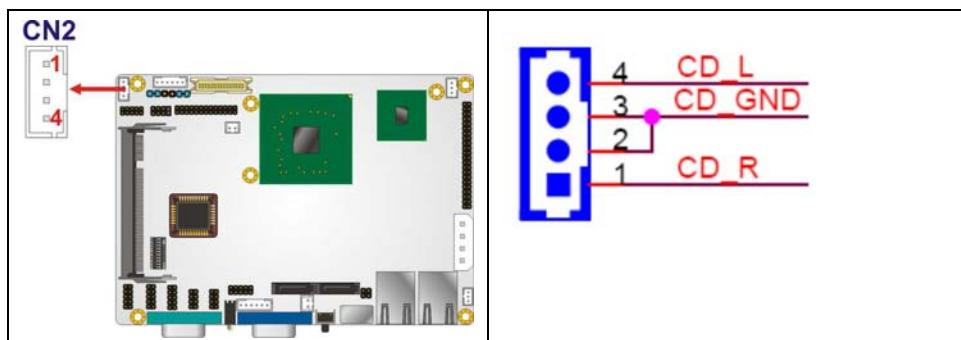

Figure 4-7: Audio CD In Connector Pinouts (4-pin)
4.2.5 CD Audio Connector**CN Label:** CN2**CN Type:** 4-pin header (1 x 4)**CN Location:** See Figure 4-7**CN Pinouts:** See Table 4-7